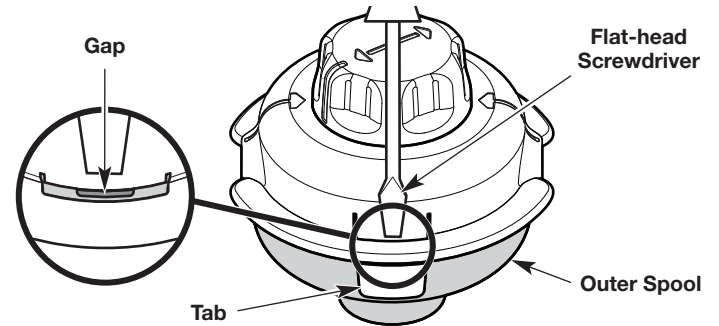

Fig. 21
- a. Firmly press a tab on the cutting head with your thumb (Fig. 21). **DO NOT** press the tab with a screwdriver or other object.
- b. Continue pressing the tab. Insert a flat-head screwdriver into the gap between the outer spool and tab (Fig. 21).